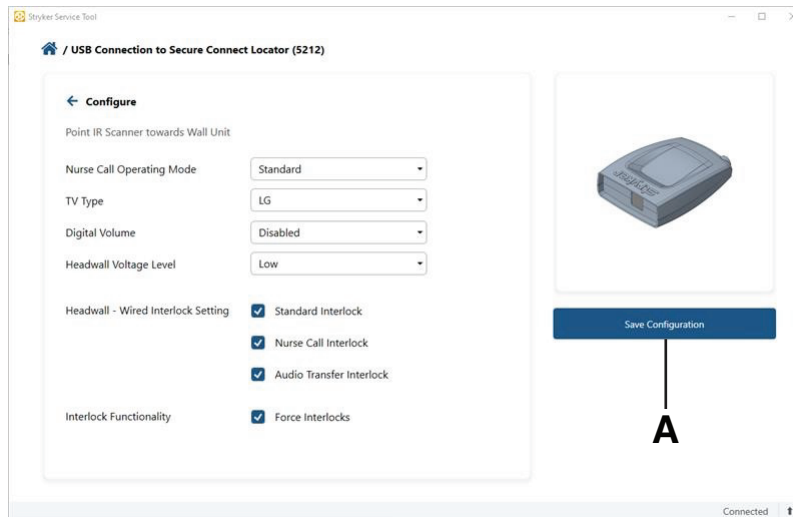

Figure 4 – Stryker service tool
2. Select **Save Configuration** (A) (Figure 4).